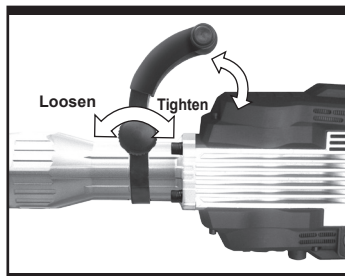

Fig. 3
4. FITTING THE AUXILIARY HANDLE (See Fig. 3)
Attached the handle as shown in Fig 3. To adjust the handle, loosen the knob on the auxiliary handle by hand.